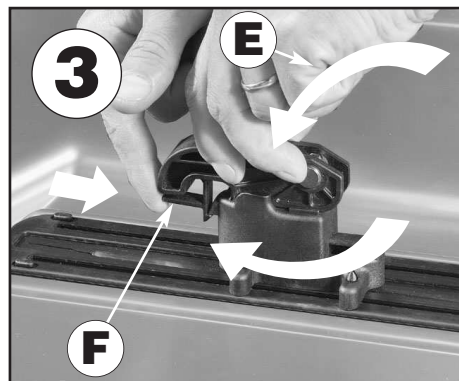

fig. 3)
- Screw the handle clockwise to bolt the hook and push the handle down to lock the system (fig. 3/E).
- Block the safety lock (fig. 3/F).